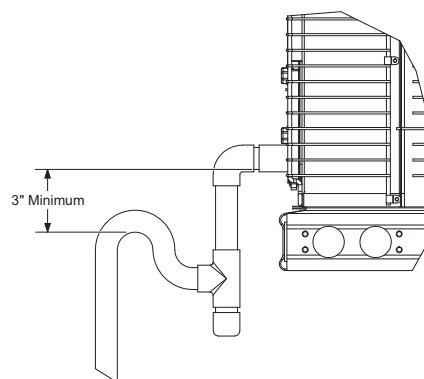

Figure 22: Condensate drain
1. Trap the connection according to Figure 22.